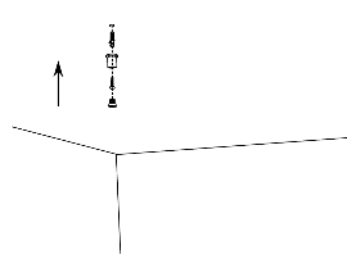

Fig. 7
1. Drill two holes in ceiling and install anchors, followed by aircraft cables, and screws (Fig. 7)